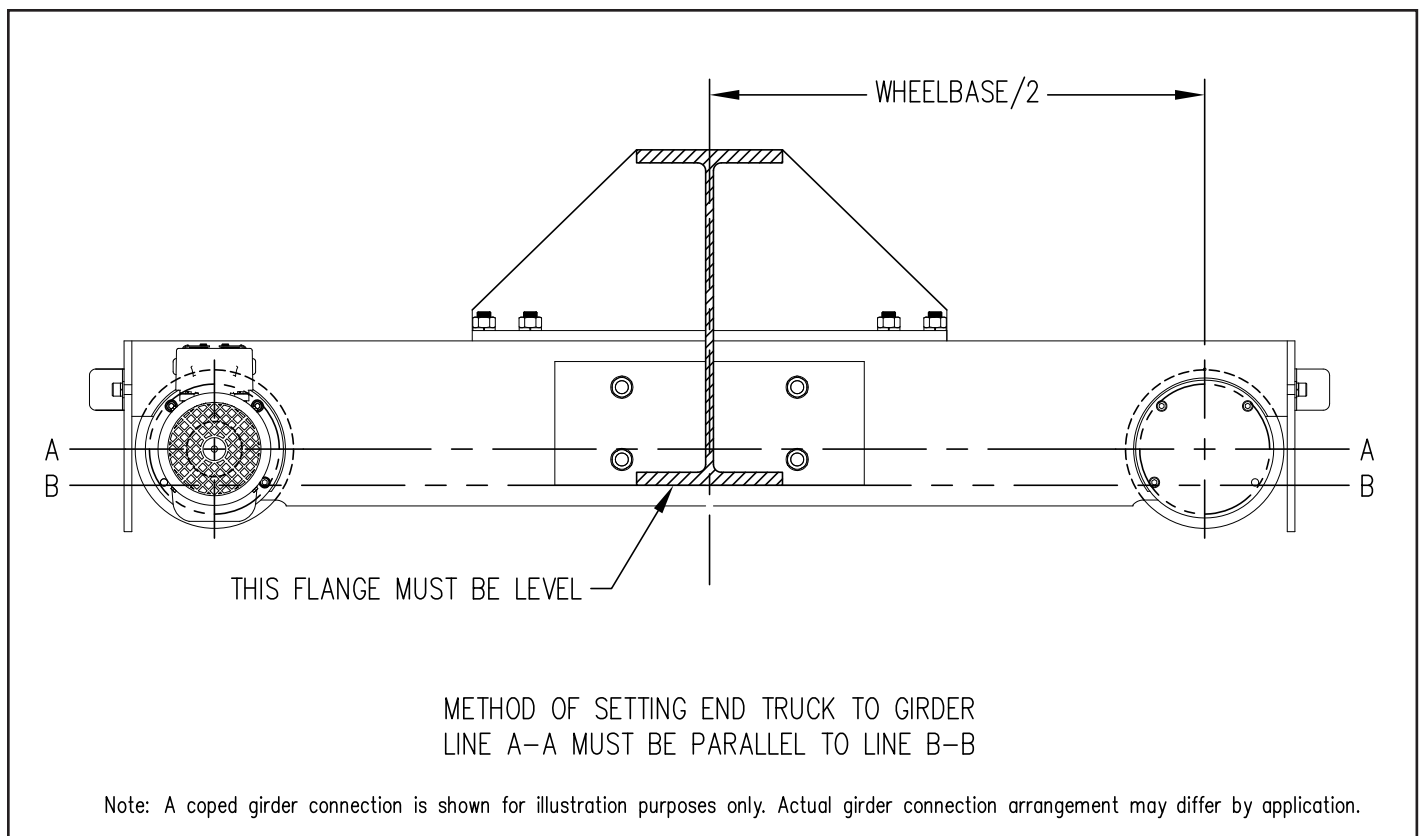

Figure 3.
1. Refer to figure 5 & 5A, Bridge Bolted Plate End Connection. Make the notch to the dimensions shown with a $\frac{1}{2}$ " radius at the intersection of the cuts with a cutting torch or plasma burner and smooth the burned area by grinding. Support beam about two feet from each end on a pair of horses, or other suitable support (adjustable, with clamping ability is preferred). Place beam on supports so that camber side is at top. In case of beams with capping channels the channel side is up. When setting up the beam on supports, make certain that **the bottom flange is level**, as shown in figure 3.
2. Locate end trucks in the notch of the girder, one at each end of the girder. Make certain trucks are level with each other and are level with the bottom flange of the beam as shown in figure 3. The girder web is centered on the truck wheelbase.
5. After assuring that the trucks are accurately positioned and squared, complete girder connections as shown in figure 3.